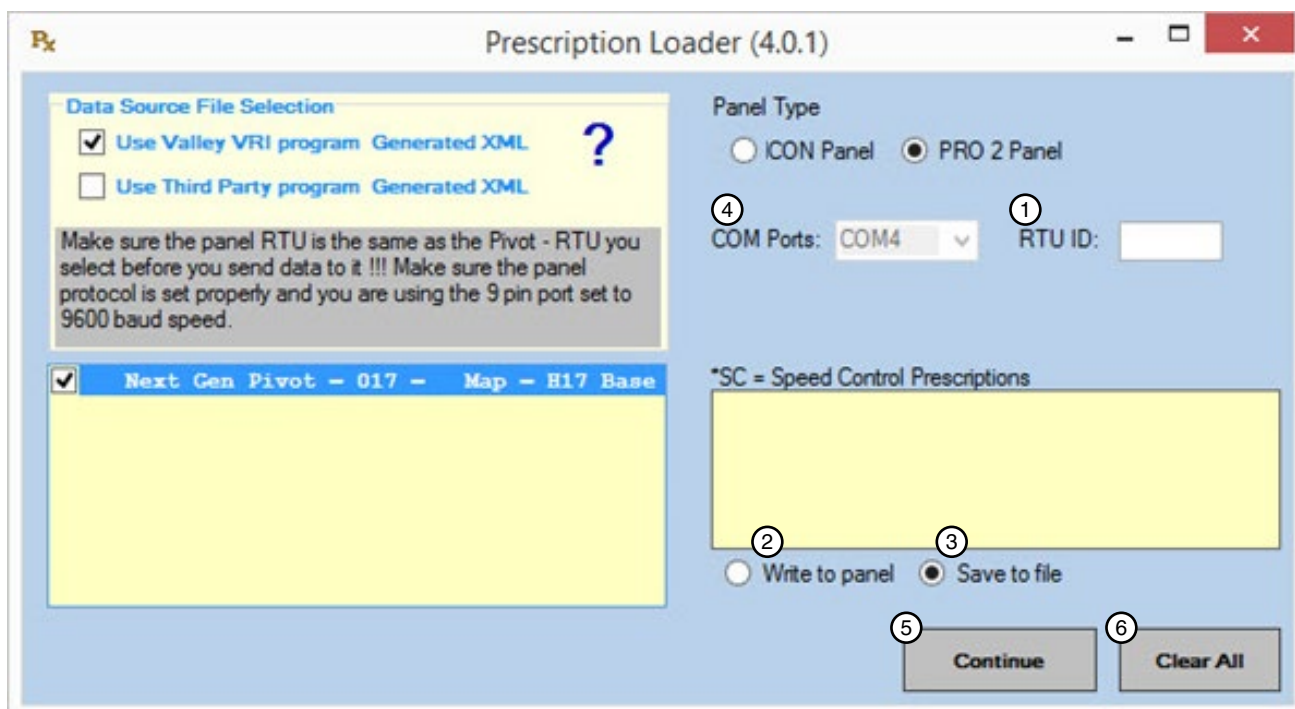

Figure 43-1 1. RTU ID 3. Save to file 5. Continue
6. Enter the RTU ID of the panel. This will be used instead of the number created by the prescription software. See Figure 43-1.
7. Select one of the following by clicking on the appropriate checkbox: See Figure 43-1.
8. **If you are writing to the panel**, select the COM port to be used in the drop-down menu. See Figure 43-1.
9. Click **Continue** to be taken to the next screen. Note: Clicking Clear All removes all selections you have made on the screen. See Figure 43-1.